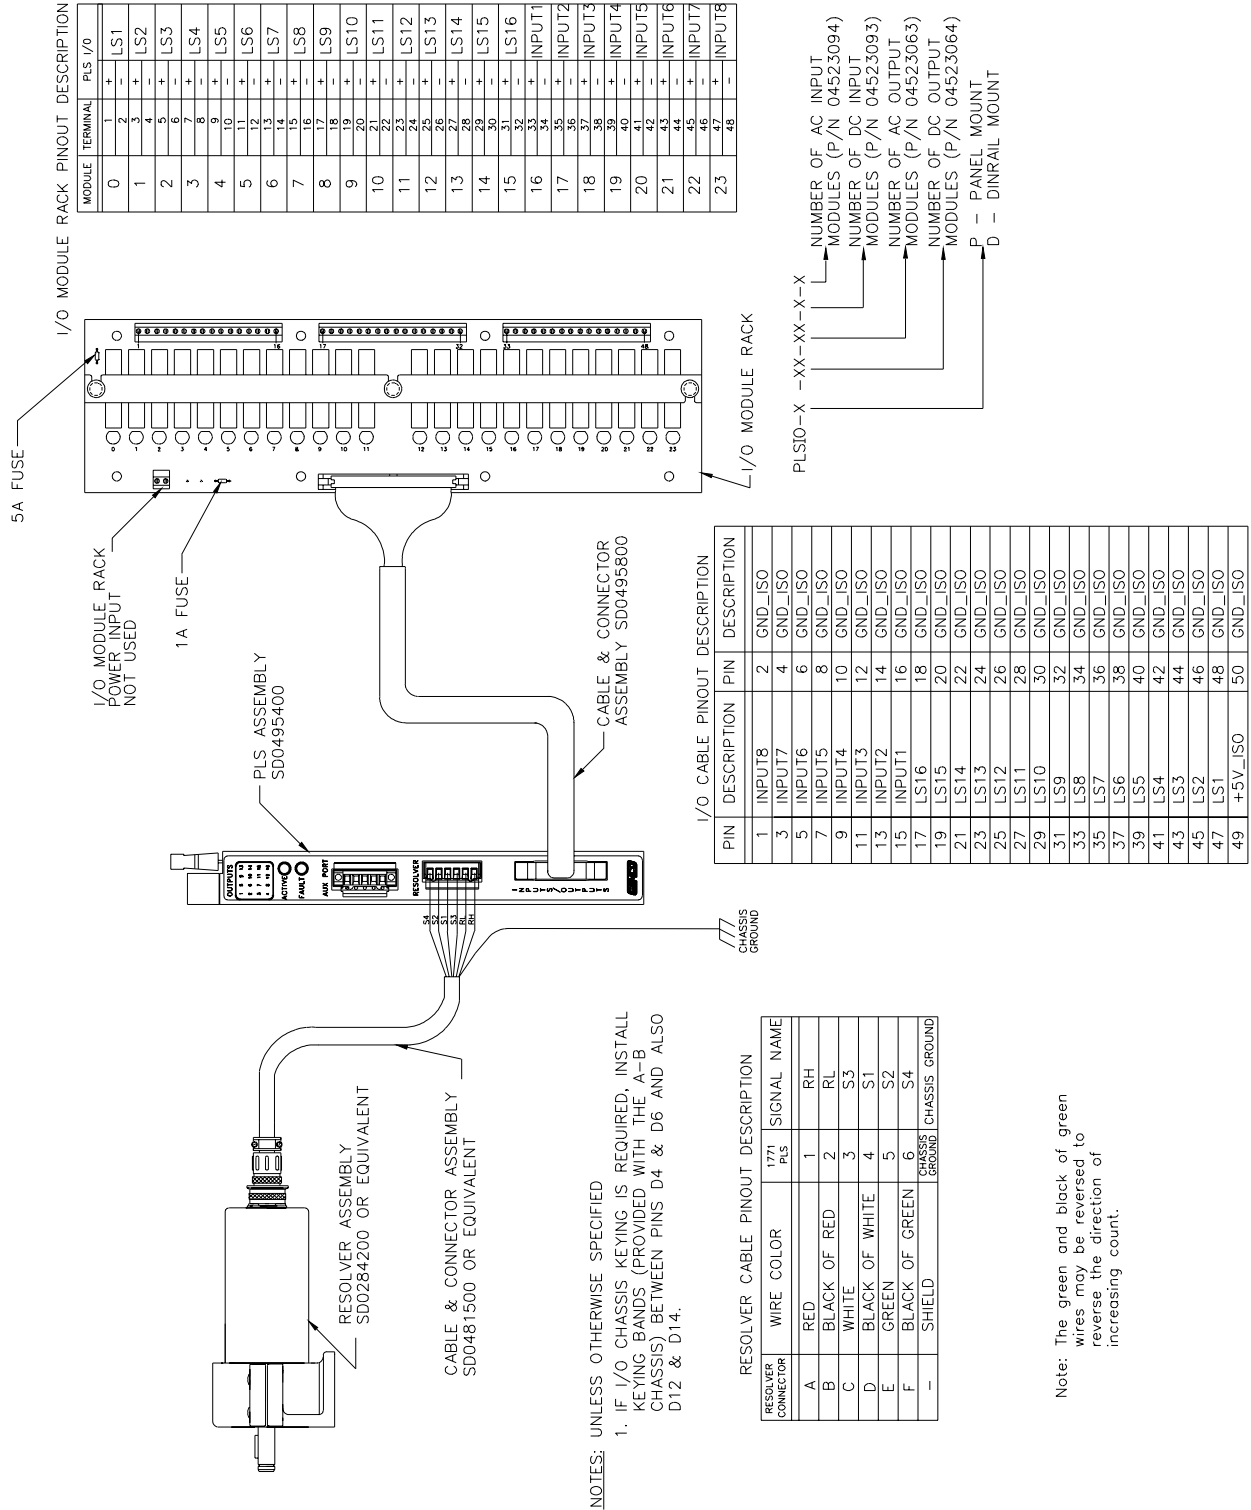

Fig 3-2 Wiring Diagram
Refer to Figure 3-2 while performing the following steps. If you are using I/O chassis keying, refer to Figure 3-2 for keying.
3. Attach the 50-pin cable to the mating connector marked “INPUTS/OUTPUTS” on the PLS module. See Figure 3-2 for pinouts if you are using your own cable.